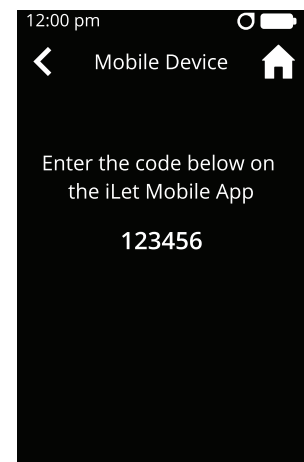

Figure 96
- d. Enter the 6-digit code into the iLet Mobile App (see Figure 96).